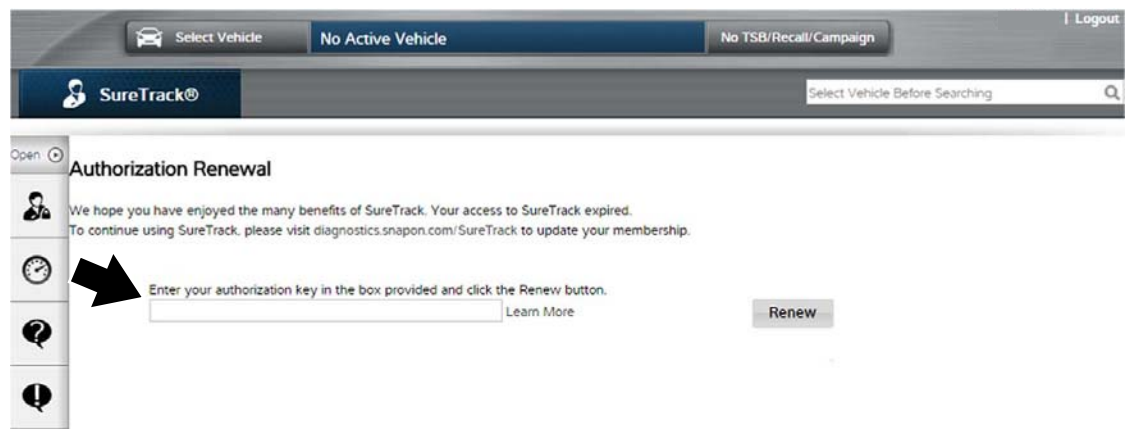

Figure 15-5 SureTrack Authorization Renewal Login Page
- If your SureTrack authorization code has expired, you will be automatically redirected to the SureTrack authorization renewal page (Figure 15-5), proceed to step 5.
5. If you have purchased a software upgrade, enter your NEW SureTrack authorization code (found on your sales receipt) (Figure 15-5).